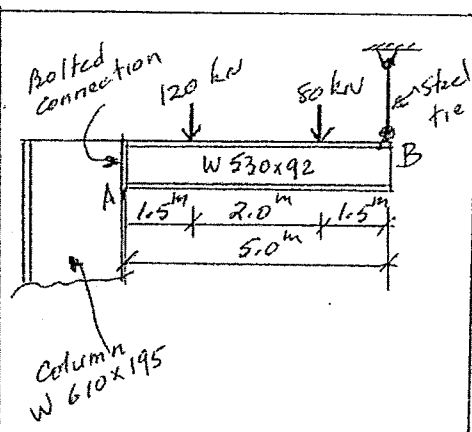

FIGURE A2
- A2. The loaded simply supported steel beam, W530 x 92, G40.21M 350W, in Figure A2 is bolted to the column, W610 x 195 of G40.21M 350W. Design a bolted connection between the steel beam and the column, as well as design the steel tie at B.